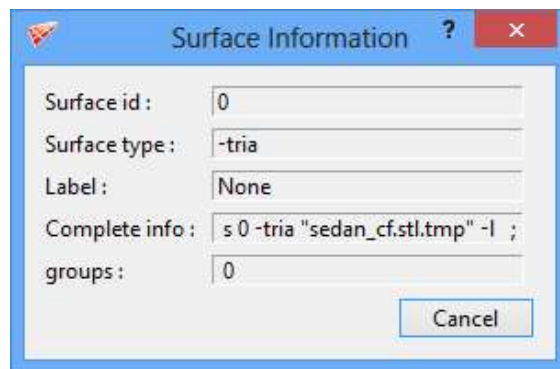

Figure 3.67: Surface information
- **Surface info** shows the information on surfaces such as id, type, label, position and group number to which it is grouped, as shown in Figure 3.67.